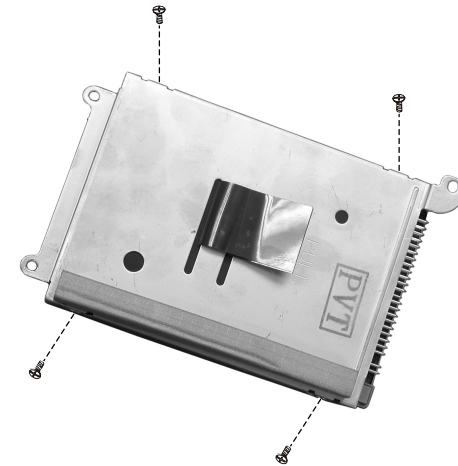

Figure 2-9 Free the HDD driver
3. Remove four screws to separate the hard disk drive from the bracket, free the hard disk driver. (Figure 2-9)